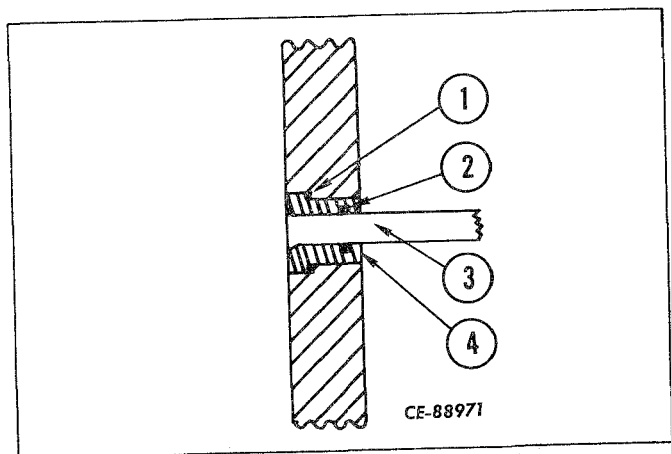

Figure 4-47
The oil supply tubes in the transmission are secured at each end in a bushing (4, Fig. 4-47). There is a gasket (1) under the bushing and an "O" ring (2) around the tube (3). If any of the tubes are damaged, they should be replaced. Install the new tube thru the bushing and expand the tube end with a large center punch to prevent pressure from pushing the tube out.